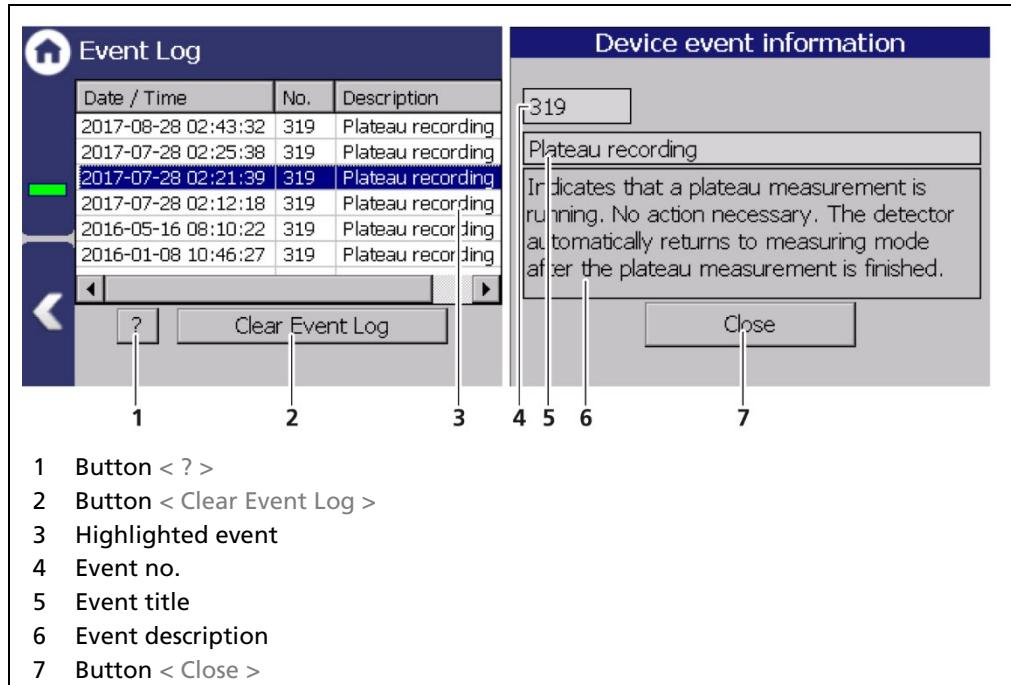

Fig. 70 Event Log
1. Click on a line in the list (Fig. 70, item 3).
2. Click on < ? > (Fig. 70, item 1)
3. With the button < Close >, close the event description (Fig. 70, item 7).
- With the button < Clear event log > (Fig. 70, item 2) all events are deleted.